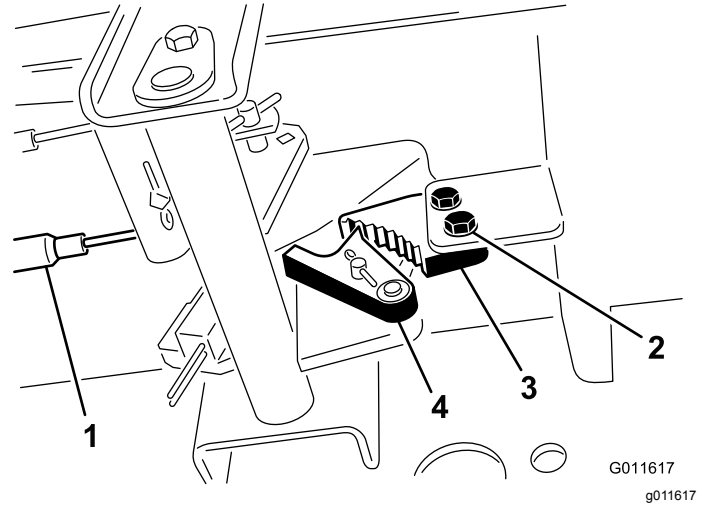

Figure 72
1. Loosen the 2 screws securing the parking-brake pawl to the frame (Figure 72).
2. Press the parking-brake pedal forward until the brake detent completely engages on the brake pawl (Figure 72).